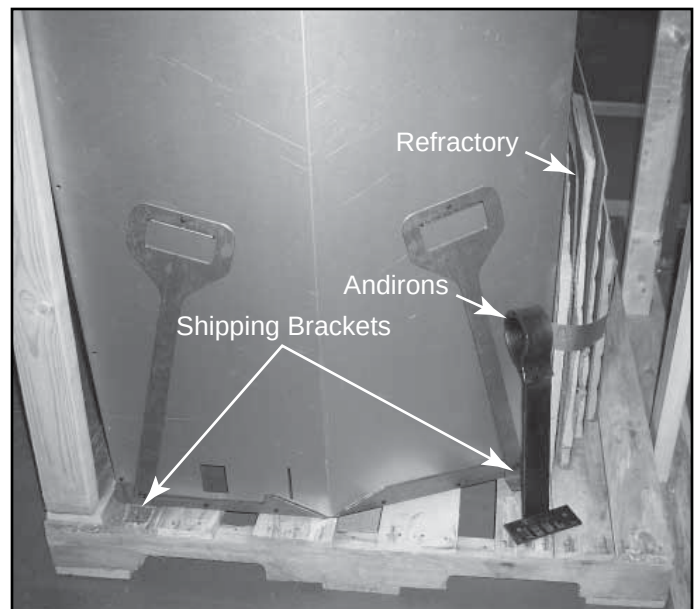

Figure 4.2 Refractory Shipping Location, Brackets
- Carefully remove the appliance and components from the packaging. Refer to Figure 4.2.